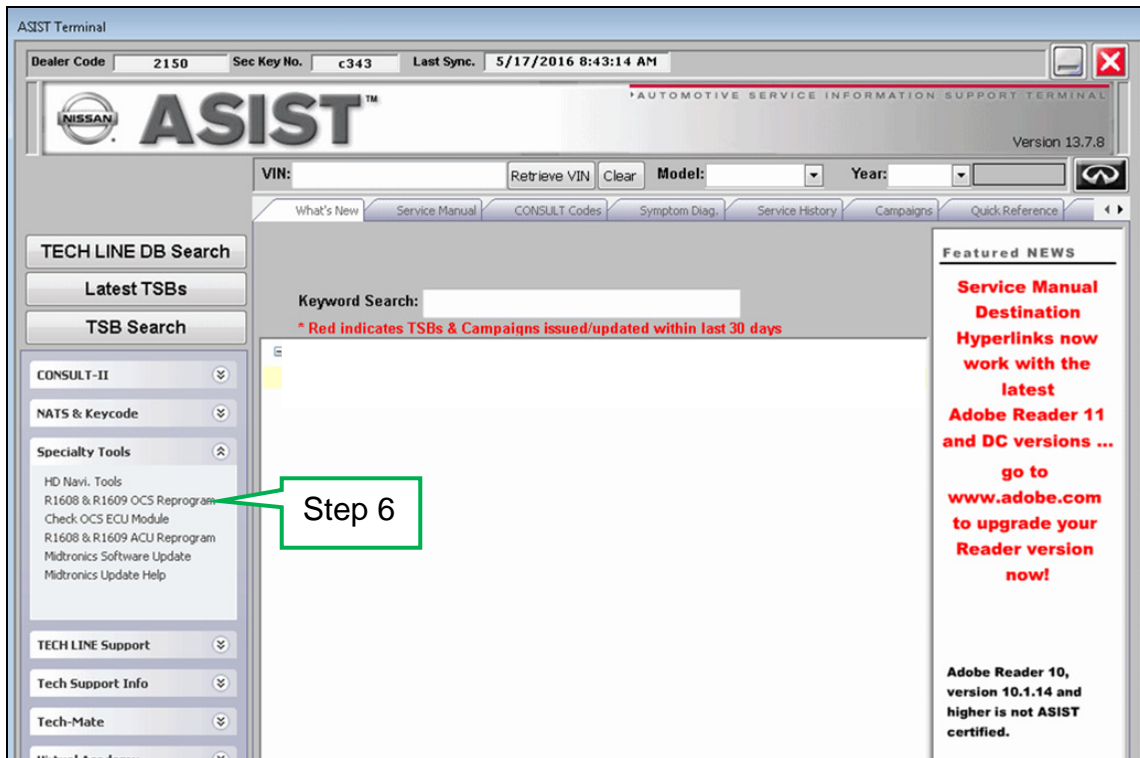

Figure 25
6. Select “R1608 & R1609 OCS Reprogram” under Specialty Tools (Figure 25).